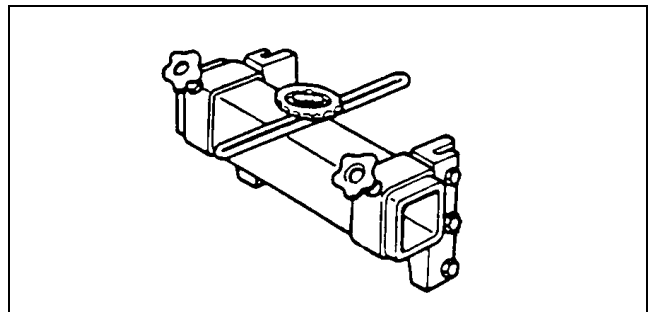

Figure 18
- TOR70153A1 Main Seal Installer (Fig. 18)